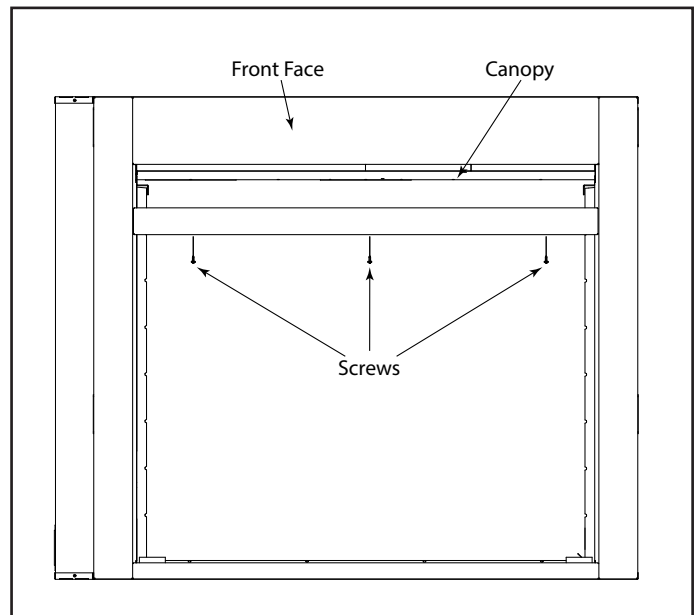

Figure 7.2 Canopy Installation
1. Locate three (3) screws at the front edge of the face (one at each end and one in center). Loosen screws slightly, slide canopy slots against screws and tighten in place. Repeat for the other side. Figure 7.2.